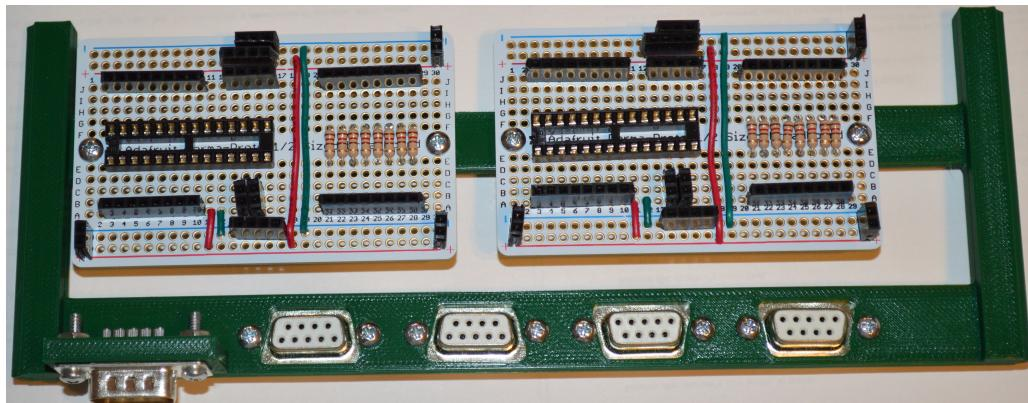

Figure 2.5: Panel I/O Tray with GPIO Boards
- Attach the two Discrete I/O Boards. See Figure 2.5.